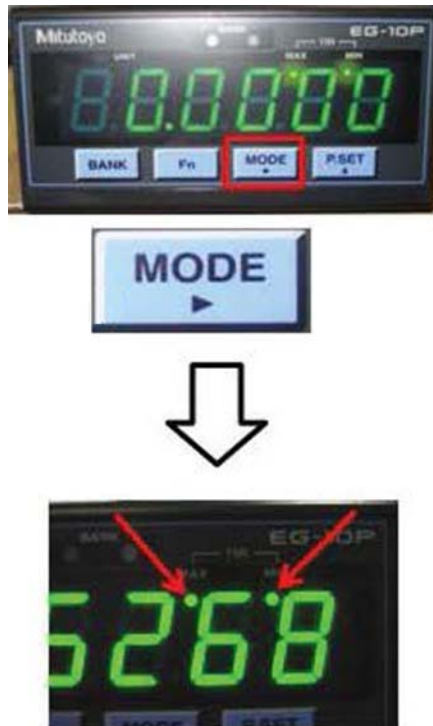

Figure B9
- 4.7 With reference to Figure B9, push three times the "MODE" key until the LED indicators above MAX, MIN and TIR are on.